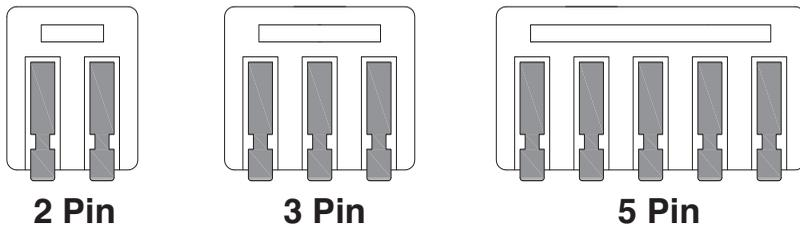

FIG. 22
2. All Wiring inside the fixture use WAGO connector of 5 PIN, 3 PIN and 2 PIN (See FIG. 22). If need to remove or replace any component in the driver compartment, please keep the WAGO connector for future use.